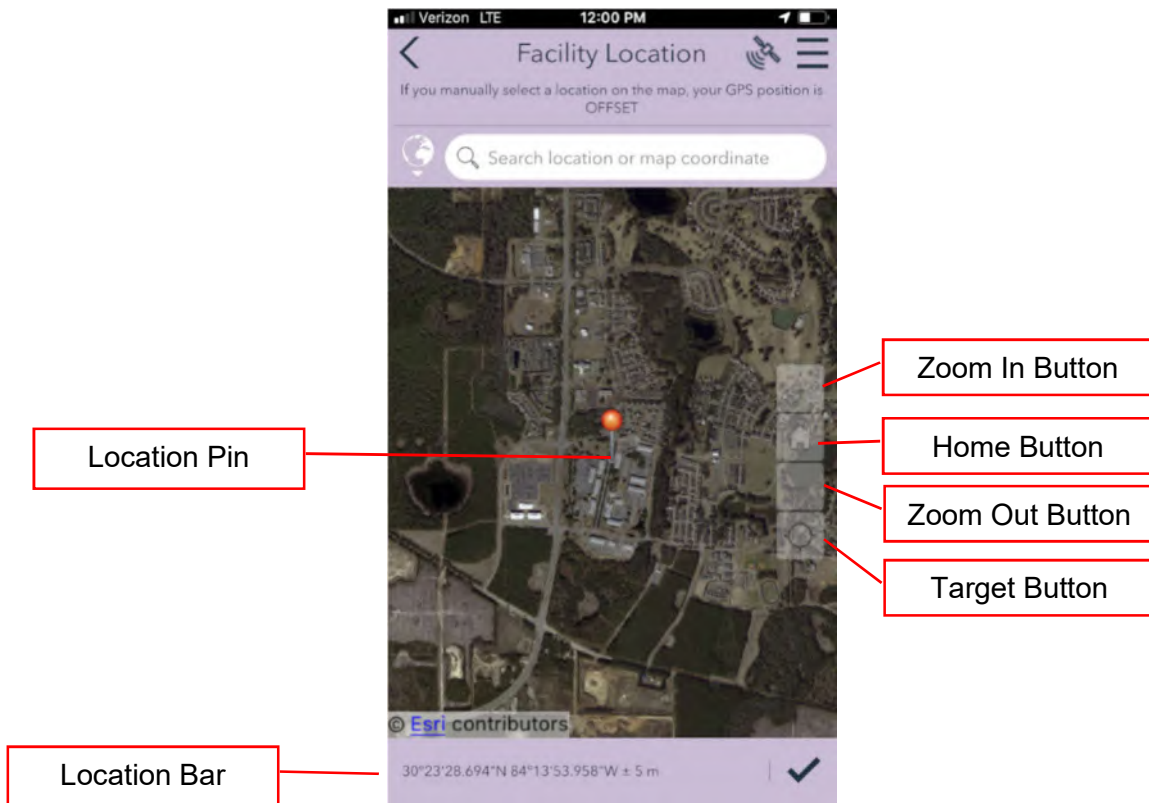

Figure 15- Location Map
When a user opens a map, there is now a search box that can be used to locate the parcel by address. PLEASE DO NOT USE THE SEARCH BOX. Using it removes the check for the 5-meter accuracy threshold and will only locate the parcel, not the location of the contamination source or the well on the property in question (Figure 15).
1. Allow the Survey123 application to determine the GPS location. Click the Target Button (Figure 15) to reset the map location to your current area.
- To select the facility or well location on the map, click on the map in the location field of the form to open a larger Location Map (Figure 15).